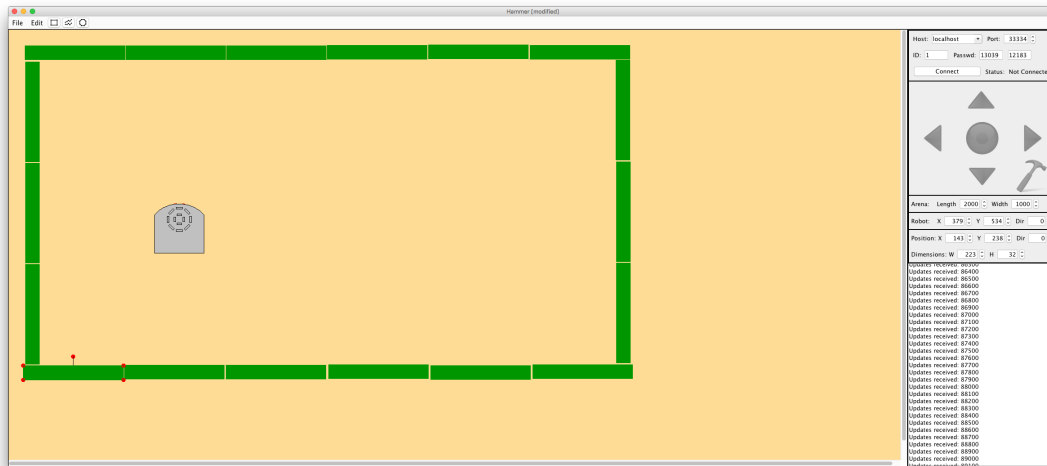

Figure 17: An enclosure of blocks with Thymio in the middle.
2. Create an enclosure of blocks in the arena, similar to the one depicted in Figure 17. To place a block in the arena, click on the button beside the *File* menu that looks like a block. You can then drag it anywhere in the arena and drop it by clicking. When selected, you can drag the block around and rotate it or resize it by using the handles. The dimension and orientation of the block are displayed in the *Object Pane* on the right.